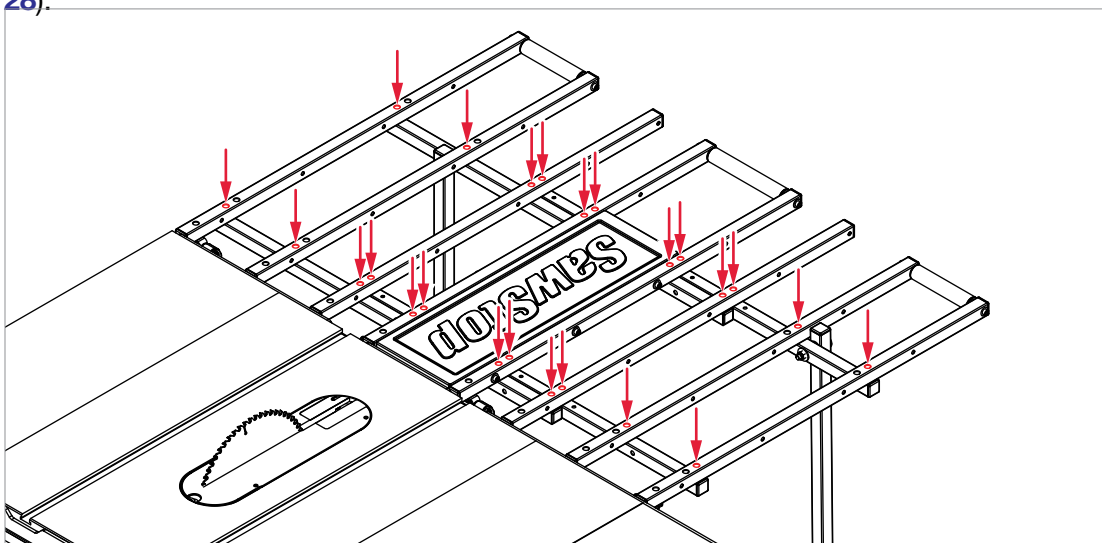

Fig. 28
- 22** Use a 5mm hex L-wrench and a 13mm wrench to tighten the 24 socket head cap screws and lock nuts securing the table tubes to the table support tubes (see Fig. 28).